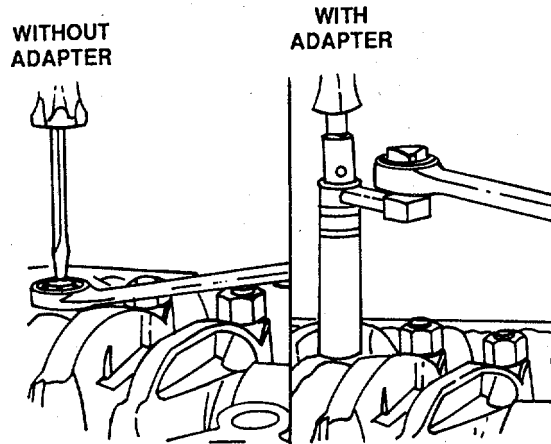

FIGURE 2-34. Torque Methods.
- (m) Hold the adjusting screw in this position. See Figure 2-34. The adjusting screw must not turn when the lock nut is tightened. Tighten the lock nut to the following value:
- (e) Hold the adjusting screw in this position. The adjusting screw must not turn when the lock nut is tightened to its torque value (Figure 2-34). Tighten the lock nut to the following value: